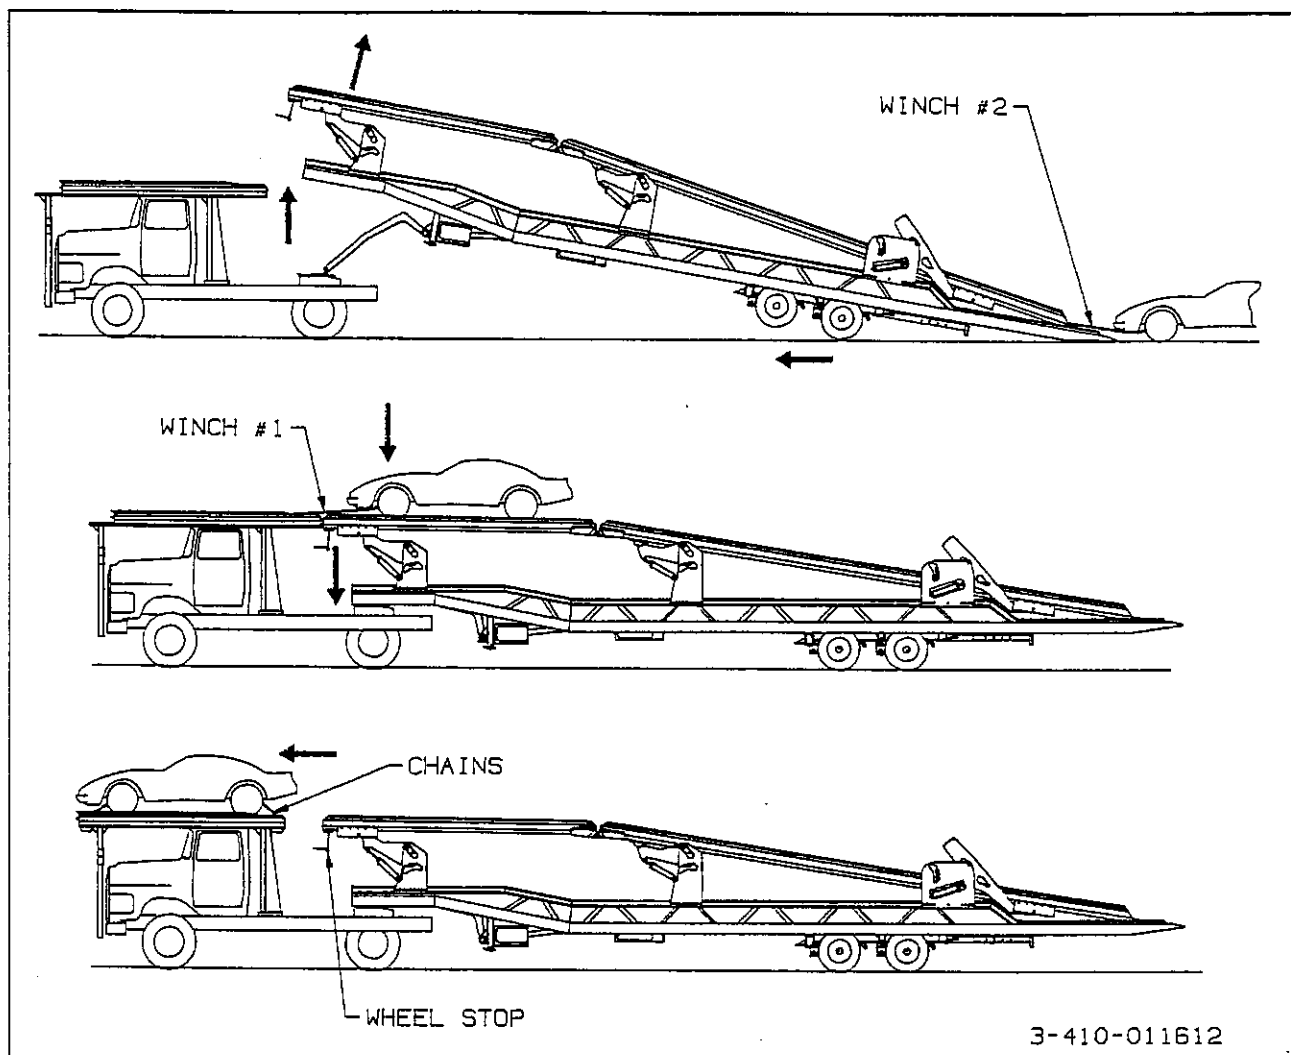

Figure 3-8 Loading the Over-the-Cab Deck
f. Unlock and raise the front arm as high as it will go. (See Figure 3-8.)
g. Make sure the trailer axles are all the way forward. Tilt the trailer with the **TRAILER TILT** control, until the approach plate of the lower deck touches the ground. (See Figure 3-8.)